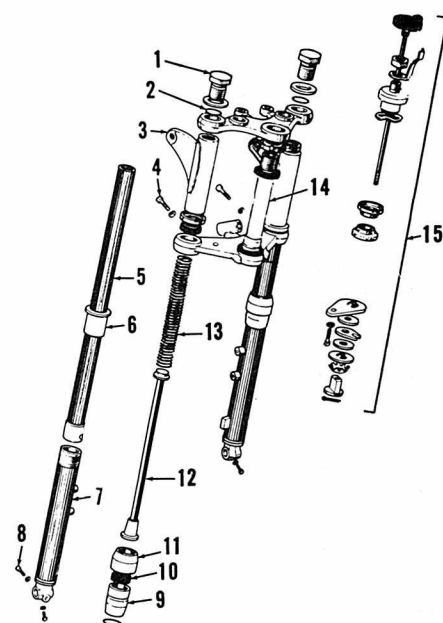

Fig. K6-8—Front suspension units used on Mach III.
**SUSPENSION.** Oil used in front suspension units should be a mixture of 65% SAE 30 motor oil and 35% SAE 60 spindle oil. Each front suspension unit contains 230cc of this mixture. Standard free length of fork spring (13—Fig. K6-8) is 13.58 inches. Renew spring if less than 13.18 inches long. Oil may be drained from forks by removing screws (8). Forks may be disassembled by clamping the